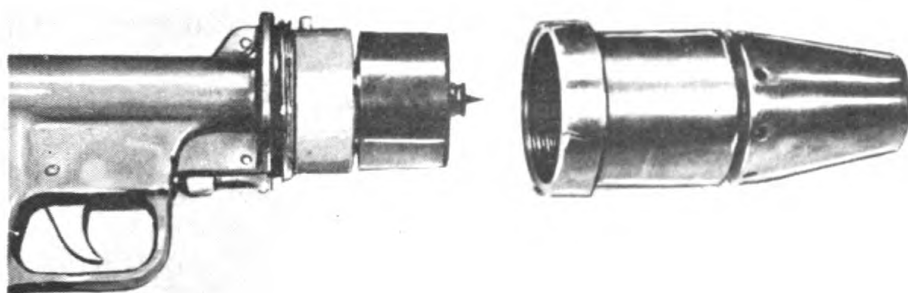

Fig 16. Ignition cylinder in place on gun before replacement of ignition shield.
- (3) Raise nozzle end of gun so cylinder slides down against the spring case of the ignition head. (Fig 16) If necessary, rotate cylinder so it slips down all the way. Do not force cylinder into place as forcing may prematurely ignite it.
- (4) Rotate spring case and ignition cylinder clockwise as far as they turn freely.
- (5) Place ignition shield over cylinder. Engage the slot in the shield on the spring-case pin.